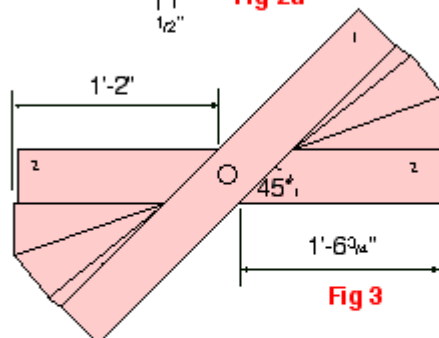

Fig 3
4. Board No 2 is now measured and cut into halves with a 45° to one end each and 90° to the other ends. See Fig 3. Cut accurate faces as these two halves will be butt jointed to the sides of board No 1. Prepare biscuit joints on these end faces (dowel if you prefer).